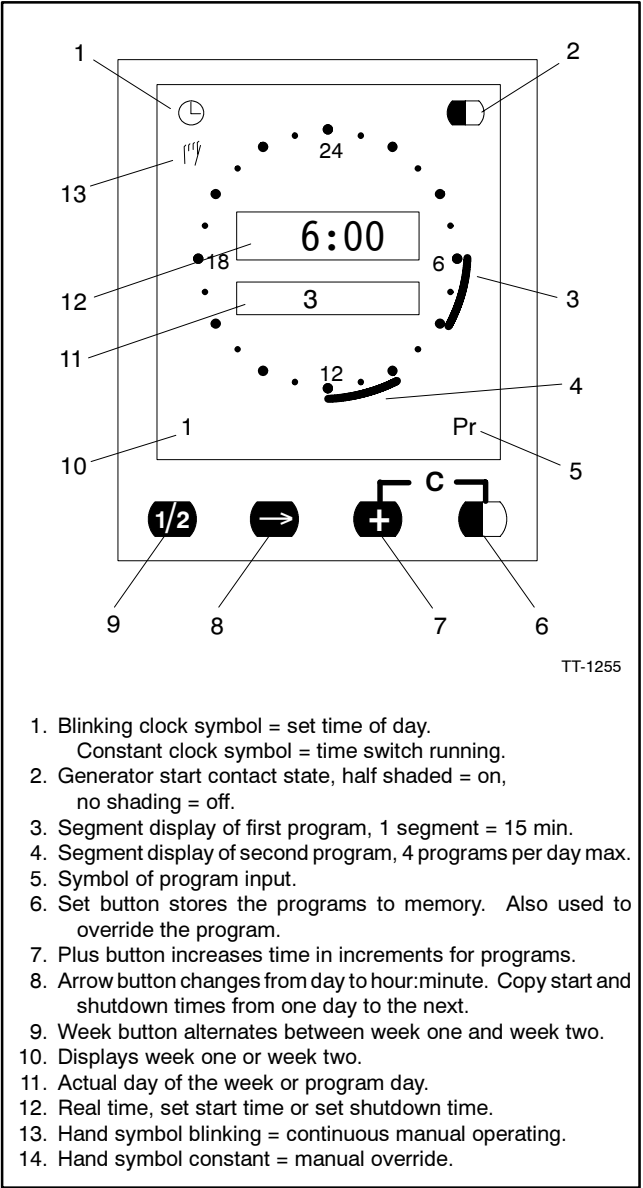

Figure 3-9 Exercise Timer
The plant exerciser has a liquid crystal display (LCD) panel that shows various exerciser information and four pushbuttons to enter information. See Figure 3-9. The following sections detail how to set the exerciser.
2. Simultaneously press and hold the ARROW (→), PLUS (+), and SET (■) buttons for 10 seconds. See Figure 3-9.